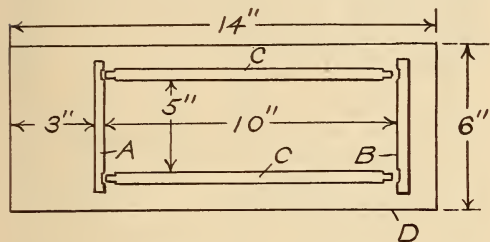

FIG. 10. MANNER OF ASSEMBLING CASE
In Fig. 10 are shown the four sides of the coil case and the plan which should be followed out in grooving. Although it is not absolutely essential that the corners should be grooved, this will make the case more rigid and give it a workman-like appearance. The dimensions as shown in Fig. 10 are for the inside measurements, as any thickness of board from one-fourth inch to one-half inch can be used for the
The parts of the case are now all assembled, preferably by screwing down with small screws, leaving out however the end piece (A). As shown in Fig. 10 the end (A) should rest, when assembled, three inches from the end of the base (D).